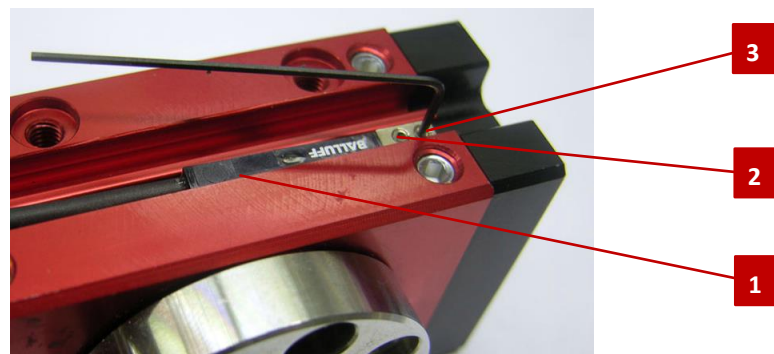

Fig. 20 Illustration of magnetic field sensors
1. Insert the sensor (Fig. 20, 1) with the mounted slot nut into the C-slot.
6. Securely fasten the sensor with the fastening screw (Fig. 20, 3).